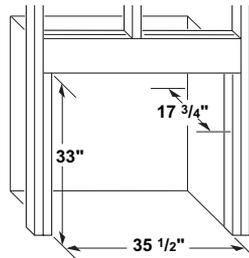
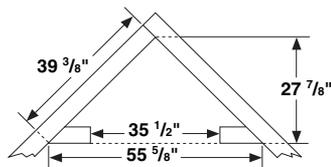

Figure 24 - Rough Opening for Installing in Wall
Figure 25 - Rough Opening for Installing in Corner
- Frame in rough opening. Use dimensions shown in Figure 24 for the rough opening. If installing in a corner, use dimensions shown in Figure 25 for the rough opening. The height is 33" which is the same as the wall opening above.